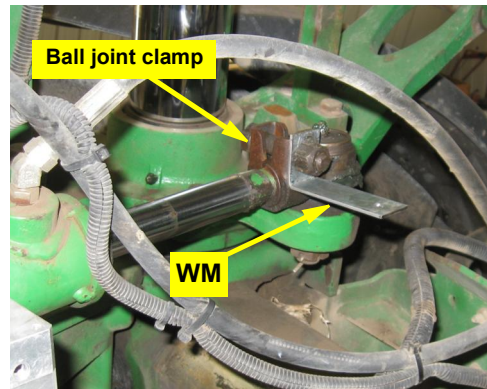

Figure 2d: WAS rod link bracket installed
- d. Mount rod link bracket **WM** on the steering cylinder ball joint clamp bolt at the end of the cylinder piston rod. Mount the bracket with its long side inward and below the clamp bolt (Figure 2d).